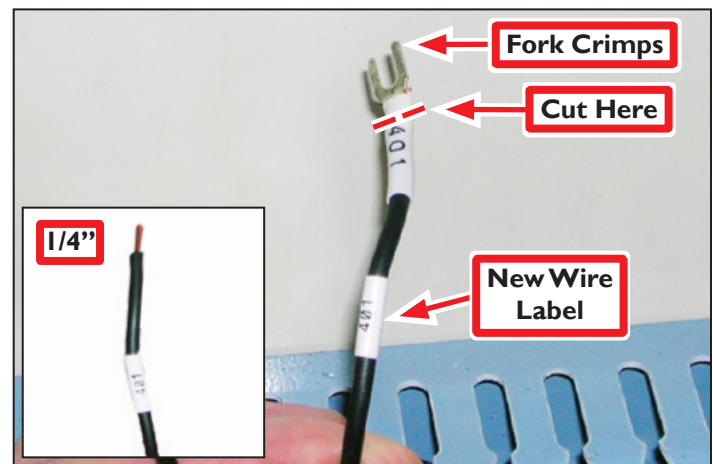

Figure 3
2. Match each wire label (included) to each wire; put the new wire label below the existing label, as shown in **Figure 3**.
3. Using a wire cutter, remove existing fork crimps at the location indicated in **Figure 3**.
4. Remove the original wire label and strip the wire 1/4 in. from its end (see **Figure 3 inset**).